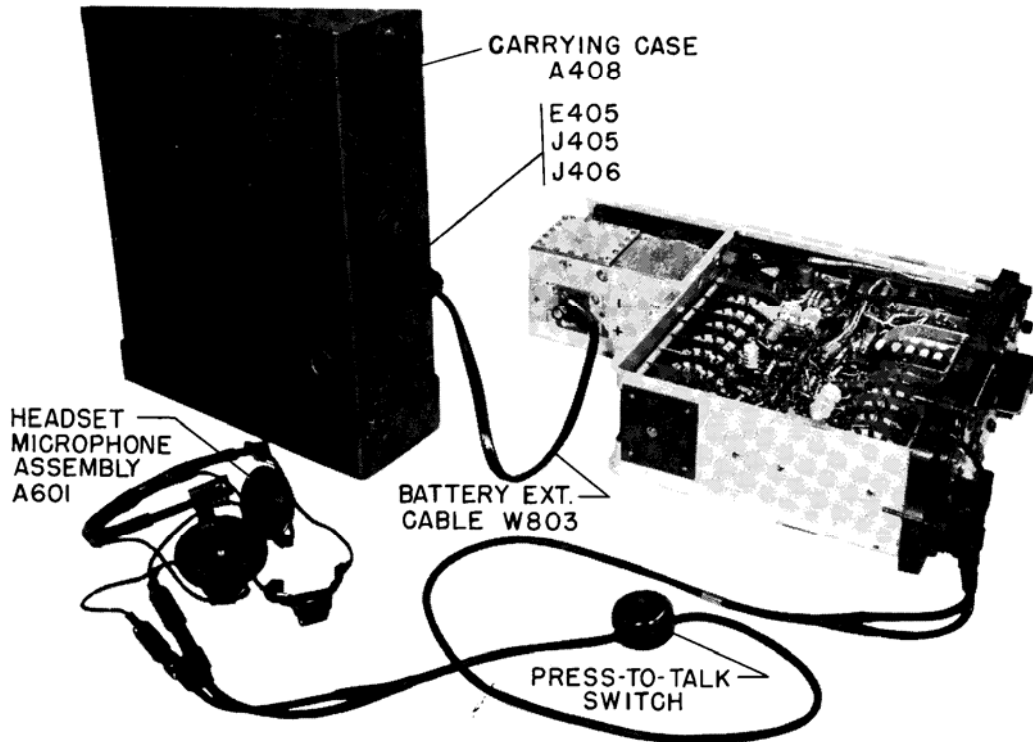

Figure 6-3. Receiver-Transmitter Connected Outside of Case
Remove the chassis from the carrying case as outlined in paragraph 1.b.(2) of section 5, and set with the wiring side of the chassis up as illustrated in figure 6-3.